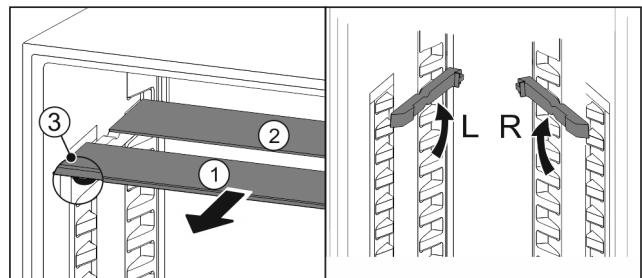

Fig. 173
- ▶ Pull the glass panels out Fig. 173 (1) from the front, one at a time.
- ▶ The glass panel Fig. 173 (1) and trim strip are at the front.
- ▶ The stops Fig. 173 (3) point down.